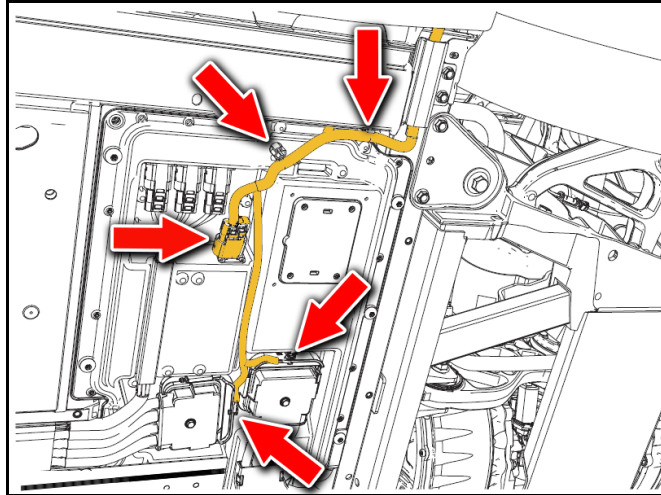

Figure 3H
3.8. Disconnect the 4th Auxiliary HV connector and pull back the On Board Charger Module (OBCM) harness (Figure 3H).